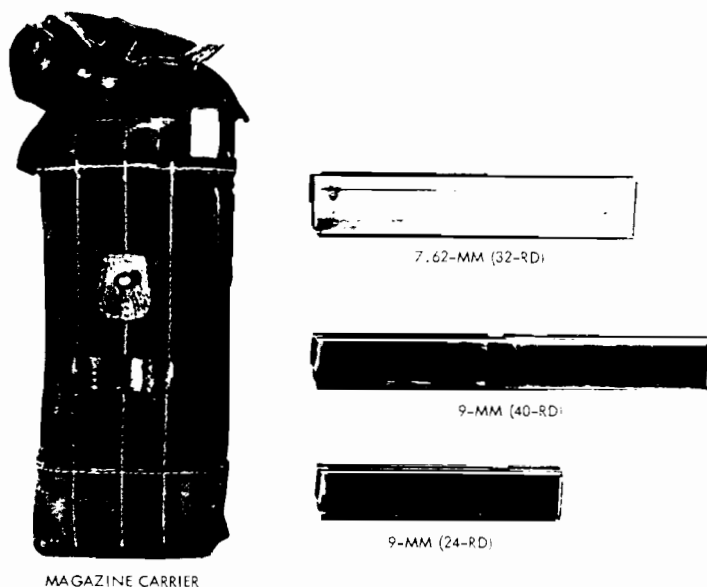

Figure 24. Czechoslovak submachinegun magazines.
b. These guns are all blowback-operated (par. 5a), selective-fire, box-magazine-fed weapons. The 9-mm magazines are made in 24- and 40-round versions; the 7.62-mm magazine holds 32 rounds (fig. 24). The type of fire, full automatic or semiautomatic, is governed by the trigger pull--a light pull fires one shot; a heavy pull fires continuously. The unusual bolt is very long and heavy; but, because it telescopes over the barrel, the overall length of the gun is quite short. An automatic safety lock (the operating handle) locks the bolt forward to prevent the gun from accidentally firing if it is dropped. An integral magazine filler is mounted on the